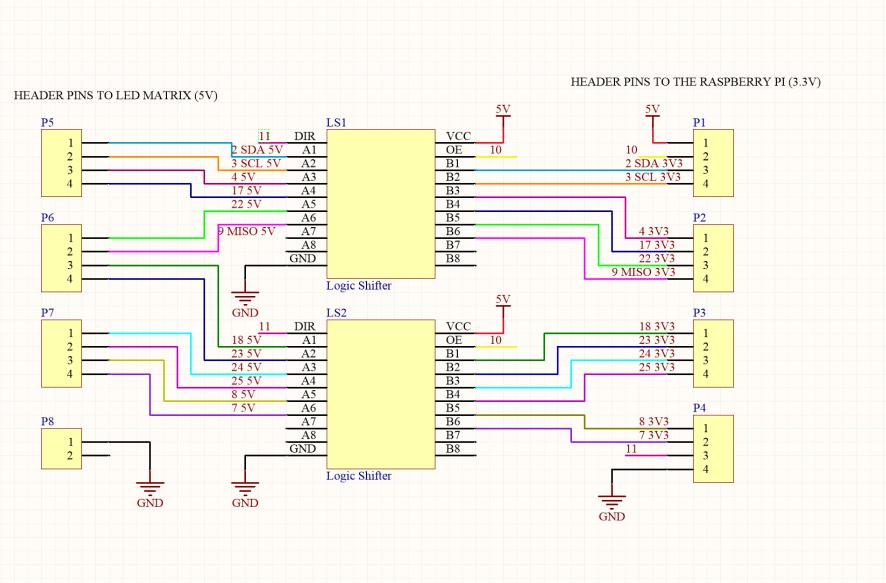
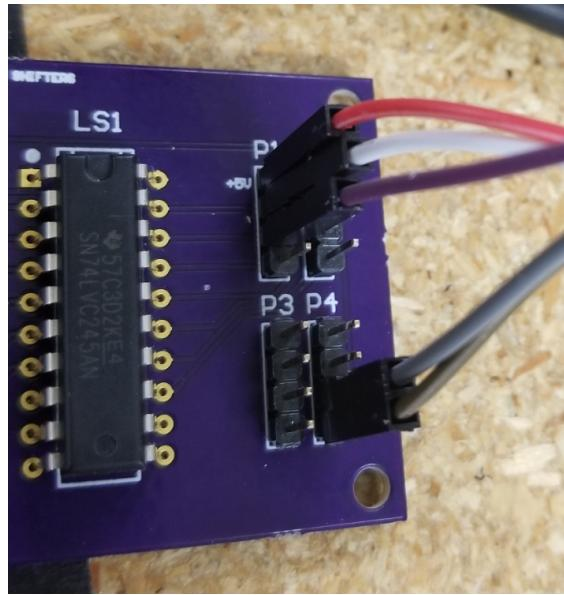

Figure 17: Logic Shifter schematic
Figure 20: Board Connections
In Figure 17 the wire labels correspond to the name of the GPIO pin the signal comes from on the raspberry pi. All pin numbers that lead to the Raspberry Pi represent **GPIO pin numbers, NOT physical pin numbers**. For instance, for header P2, pin 1 is labelled with "4 3V3". This should be connected to **GPIO pin 4** on the **Raspberry Pi (physical pin 7)**. The data sheet for the logic shifter IC chip can be found at:
2. Now, you will need to run connections to the board from the Raspberry Pi. Figure 17 shows which pins on the board are connected to which pin on the Raspberry Pi, with the exception of the purple wire, which will be using to test the signals and drive it from the 3.3V DC power pin on the Raspberry Pi. Figure 20 shows which of these we will need to start connecting the board to test.
6. Repeat this process for the rest of the pins, following along with the circuit diagram in Figure 17, making sure each channel of the shifter is working correctly.